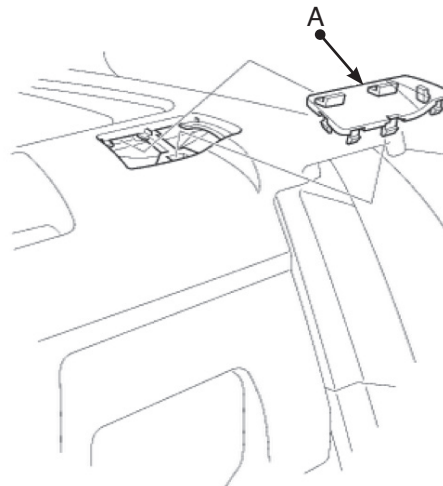

fig. C.2
1. On 2-door models, use a flat blade screwdriver to remove the plastic covers from the rear parcel shelf (Fig. C.2, A), exposing the upper mounting nuts.